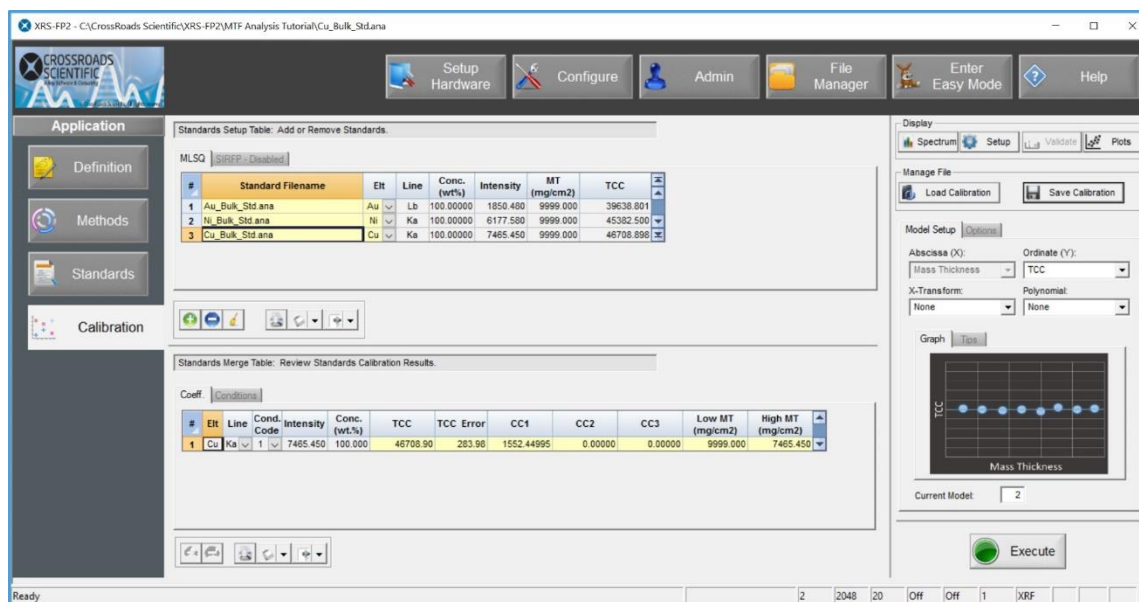

Figure 15. Application Workflow – Calibration. Add the three bulk standard files to the MLSQ calibration table.
12. Enter the three single standard calibration files in the MLSQ table under the “Standard Filename” column. Double click in the “Standard Filename” column and add the three standards created above using the down arrow key or plus button to add additional rows as needed. See Figure 15 below.
13. Check the Model Setup in the R-hand panel. The “Ordinate (Y)” should be set to “TCC” and the “Current Model” should be model 2. See Figure 15 above.